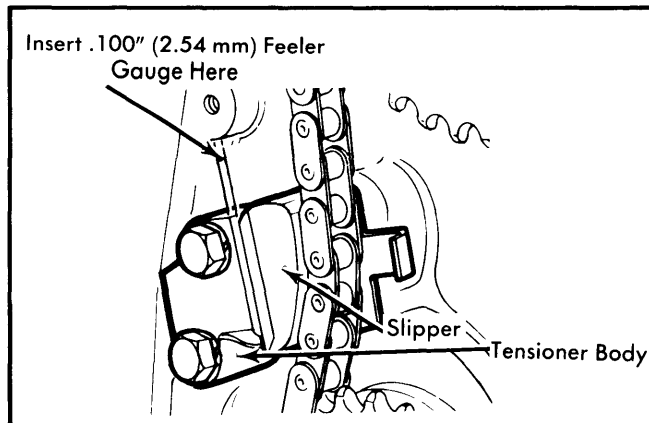

Fig. 4 Adjusting Timing Chain Tension
3) Set chain tension as follows: Insert a .100" (2.54 mm) feeler gauge between chain slipper and tensioner body (see Fig. 4). Loosen three chain guide retainer bolts and press down on timing chain guide between camshaft and intermediate shaft sprockets until feeler gauge is a sliding fit. Hold guide in this position and tighten adjustable guide bolt first, then two remaining bolts. Remove feeler gauge and continue reassembly.